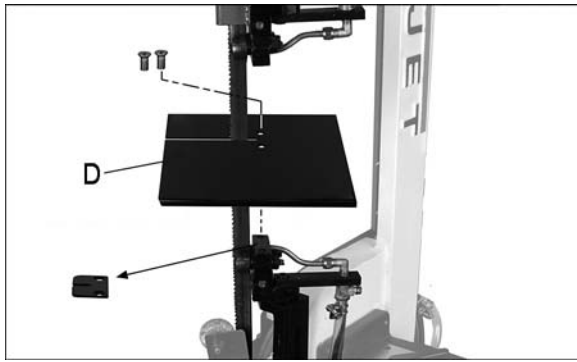

Figure 5
3. Remove two screws and remove seat plate, as shown in Figure 5.
4. Guide blade through slot in vertical cutting plate (D, Figure 5), and tighten with the two screws.